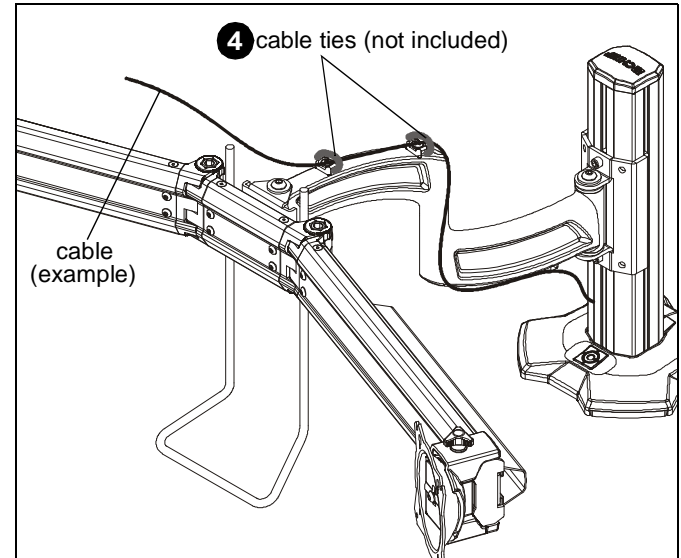

Figure 26
3. Route cables along mounting arms. (See Figure 26)
4. Use cable ties (not included) to secure cables to tie clips (E1). (See Figure 26)